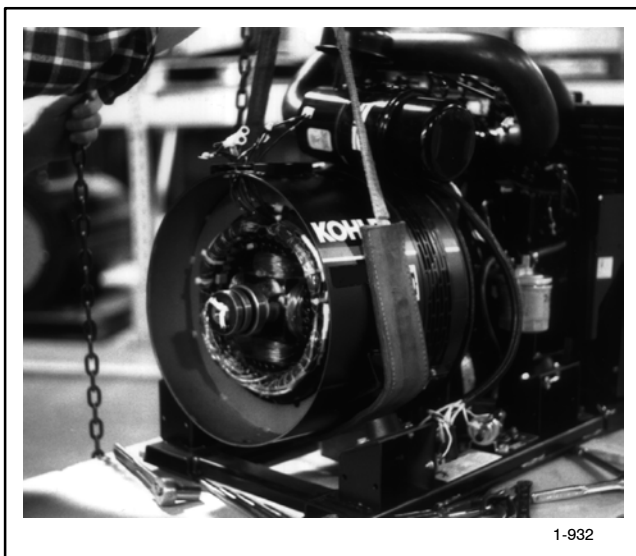

Figure 8-11. Removing the Stator
20. Carefully remove the stator by pulling the stator over the rotor assembly. See Figure 8-11.